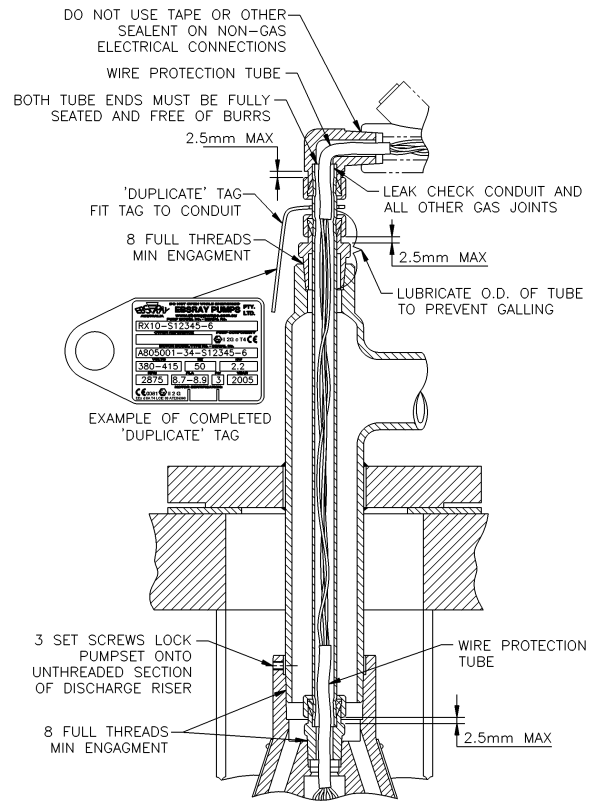

Figure 6
4. Fit conduit to compression tube fitting and tighten nut on fitting as shown in Figures 6 & 7 (2.5 mm hex key used as a no-go gauge which is approximately 1 3/4 turns after hand tight).
- b) Fit DPS to Junction Box (For Junction Boxes which are not fitted with a 1/2" NPT(F) thread, use adaptor supplied) Take care when fitting to avoid damaging electrical leads.
- e) Fit 3/4" NPT compression tube fitting to 3/4"(F) NPT side of Conduit Seal.
20. Fit duplicate Pumpset/Motor identification tag over Motor Leads and over conduit as shown in Figure 6
22. Slide wire protection tube half way into 3/4" NPT compression fitting. See Figure 6